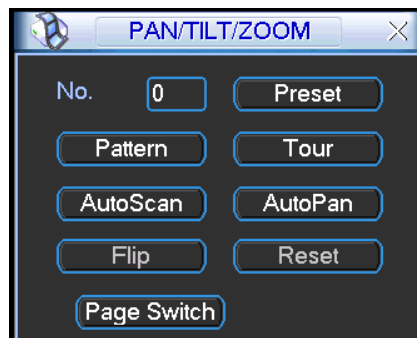
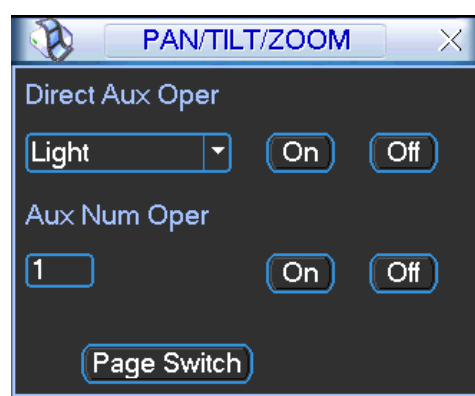

Figure 6-6
Figure 6-11
In Figure 6-2, click page switch button, you can see an interface as in Figure 6-6.
**Note:** The following setups are usually operated in the Figure 6-2, Figure 6-5 and Figure 6-6.
In Figure 6-6 please input preset number in the No. blank, and click preset button.
In Figure 6-6, input patrol number in the No. blank and click patrol button
In Figure 6-6 input mode value in the No. blank, and click pattern button.
In Figure 6-6, click auto scan button, the system begins auto scan. Correspondingly, the auto scan button changes to stop button.
In Figure 6-6, click page switch button, you can see an interface is shown as below. See Figure 6-11. Here you can set auxiliary function.